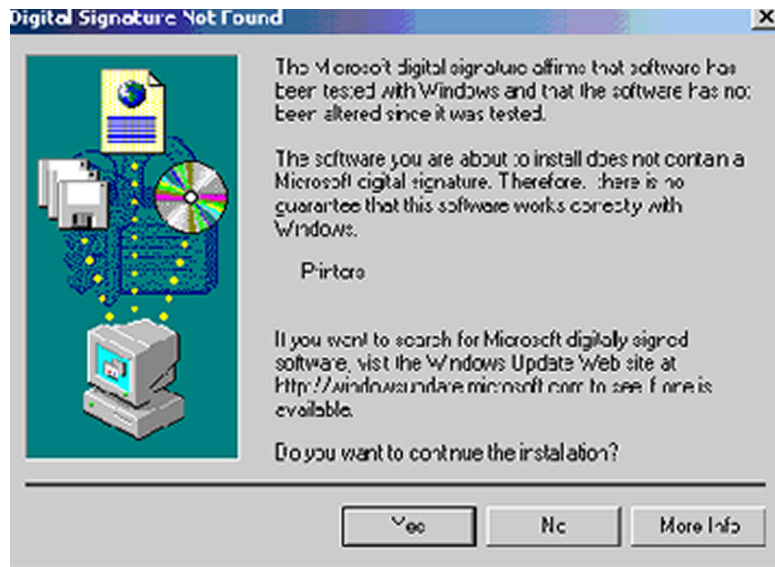

Fig. 5
2. Switch on your PC and the OptiPrinter. Your PC should automatically recognize that new hardware has been added in the form of the OptiPrinter and the "Digital Signature Not Found " message box (see Fig. 5 on the next page) will appear. You will be asked if you wish to continue installation, select **Yes**. In Windows XP, select **Continue Anyway**.